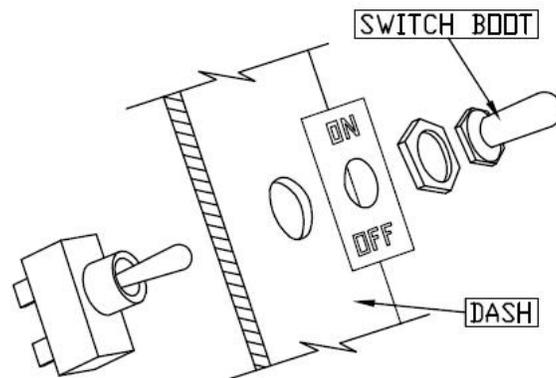

Figure 5. UTV Headlight Switch. G10694
- 9) Locate easily accessible place on dash of vehicle to mount UTV Headlight Switch Assy. (6). Mark and drill hole using 1/2" drill bit. Assemble switch as shown in Figure 5.